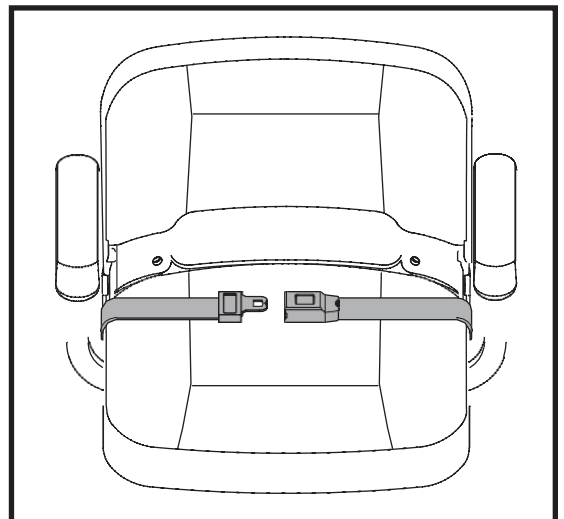

Figure 29. Positioning Belt - Metal Tab Style
Your scooter seat may be equipped with an auto-type positioning belt that can be adjusted for operator comfort. See figure 29 or 30. The positioning belt is designed to help support the operator so that he or she does not slide down or forward in the seat. The positioning belt is not designed for use as a restraining device.
1. Insert the metal tab on the right side of the belt into the plastic housing on the opposite strap until you hear a “click.” See figure 29.